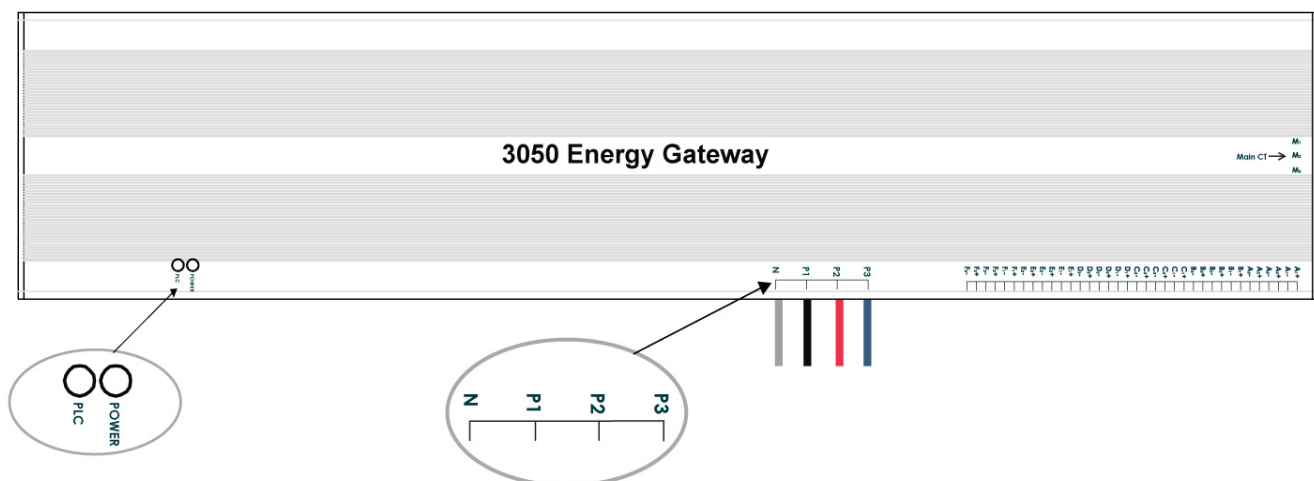

Figure1. 3050 silkscreen
- Connect 3050 to AC power with wires **P1** (Phase1) and **N** (Neutral), please see Figure 1.
- The device is powered on when LED *power* light, see Figure 1.
- The PLC signal have been received when LED *plc* flash, see Figure 1.